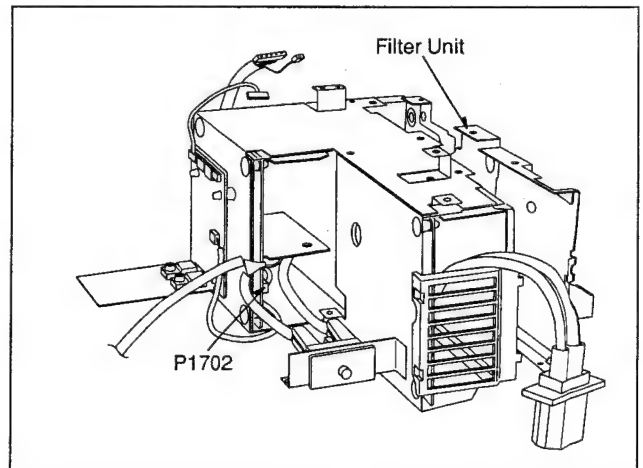

Fig. P4
3. Disconnect connector P1702 to remove the Filter Unit as shown in Fig.P4.